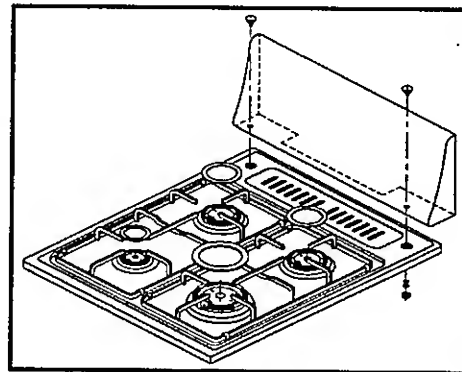

Figure 2
- Place the backguard on top of the cook top at the rear of the range (Figure 2)